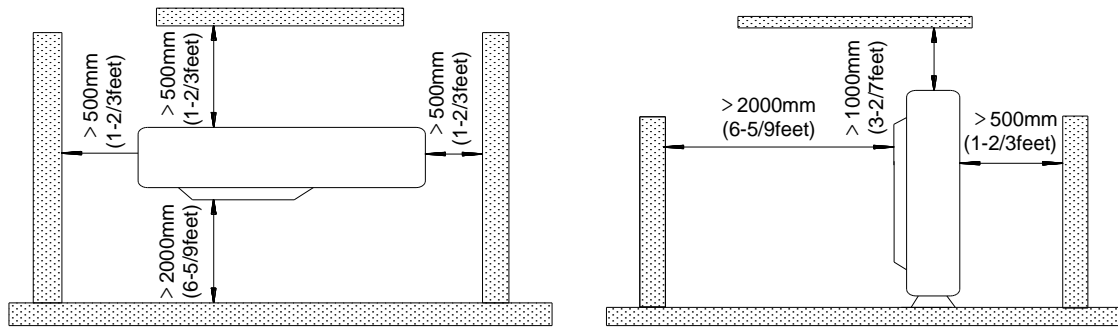

Figure 3-2-1
- (4) Do not place animals and plants in the path of the warm air.
- (5) Take the air conditioner weight into account and select a place where noise and vibration are small.
- (6) Install the outdoor unit where is capable of withstanding the weight of the unit and generates as less noise and vibration as possible.
- (7) Provide the space shown in Figure 3-2-1, so that the air flow is not blocked. Also for efficient operation, leave three of four directions of peripheral constructions open.